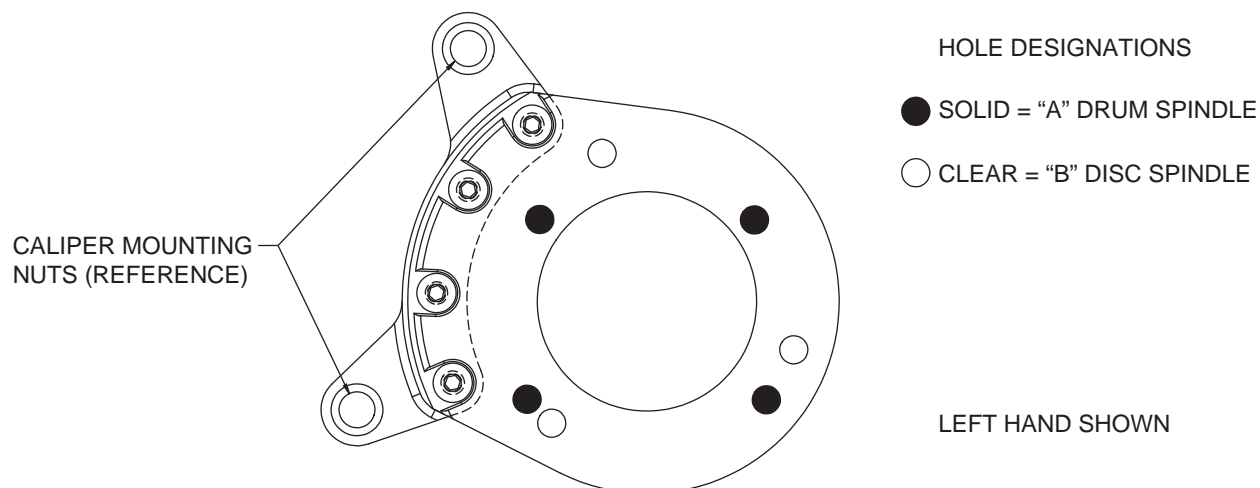
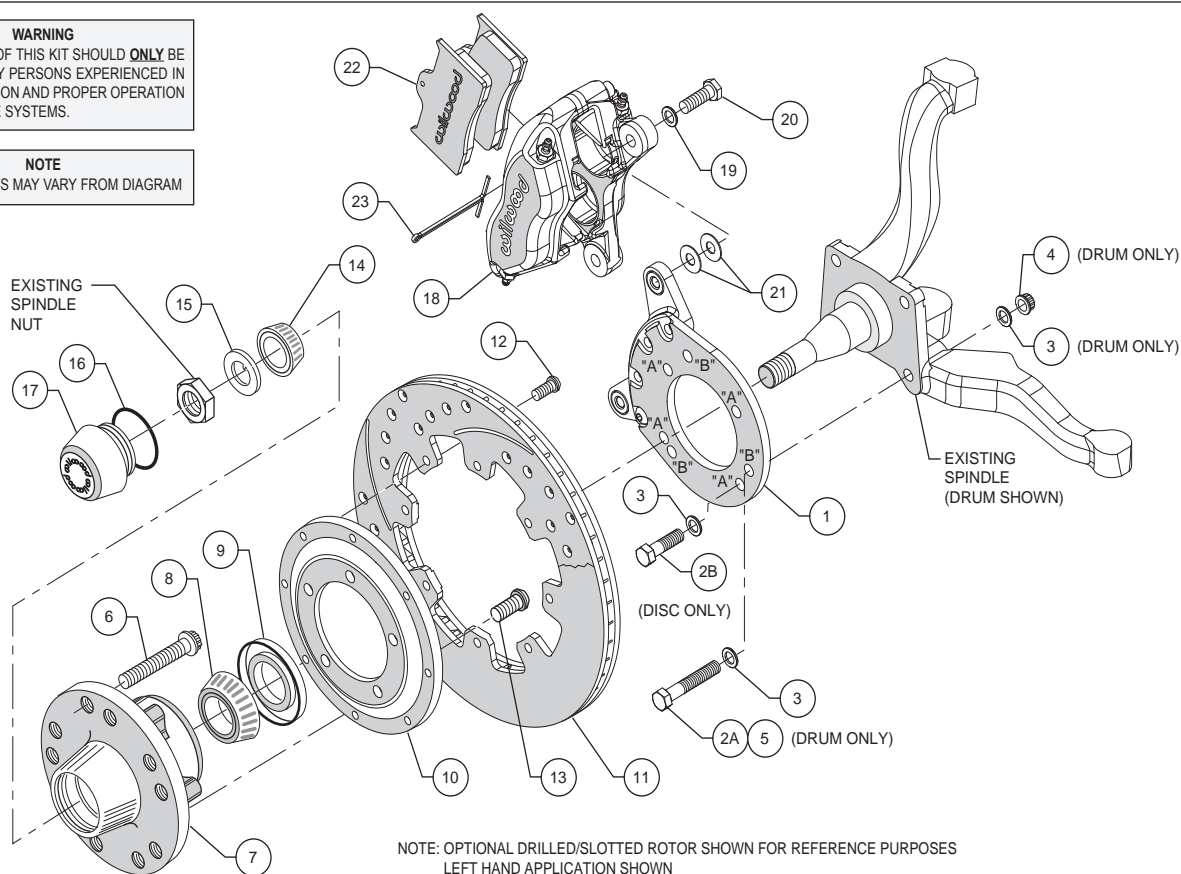
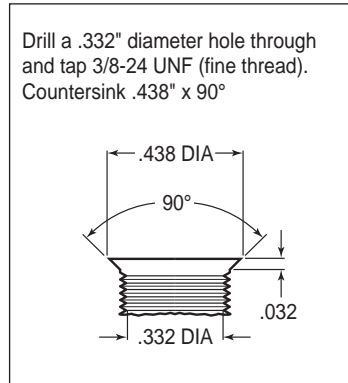
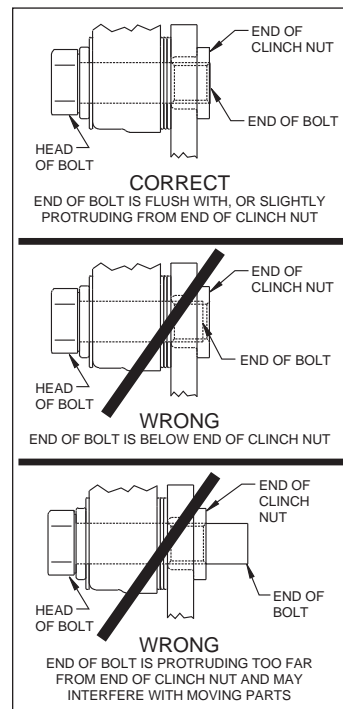

Figure 1. Wilwood Caliper Mounting Bracket
Figure 2. Typical Installation Configuration
Figure 3. Drill and Tap Detail
Figure 5. Clinch Nut Engagement Diagram
This kit has been designed for use with both the disc brake or the drum brake configuration of vehicle. The only difference is in how the Wilwood caliper mounting bracket is installed. The same bracket is used for both configurations; the disc brake version utilizes three mounting holes while the drum brake application uses four mounting holes (see Figure 1). For your convenience we have supplied bolt kits for both applications (see parts list and Figure 2 as necessary). Use the bolt kit that is applicable to your vehicle and disregard the other one.
NOTE: This modification should be performed by a qualified machinist and completed before assembly of the Wilwood disc brake kit begins. Using the caliper mounting bracket as a template (refer to Figure 1 as necessary), locate and verify the three original holes on the spindle that need to be modified. Drill a .332" diameter hole through all three holes, then tap 3/8-24 UNF (fine thread). Countersink the holes to .438" diameter x 90°, as shown in Figure 3.
Assembly Instructions (numbers in parenthesis refer to the parts list, and Figure 2 on the preceding pages): **CAUTION:** All mounting bolts must fully engage clinch nuts. Be sure to check that all bolts are either flush or protruding through flanged side of clinch nut after shimming, Figure 5.
•**NOTE:** This kit uses the same mounting bracket (1) for both the drum and disc brake spindles. The drum version, Photo 1 uses four mounting bolts (designated "A"), while the disc version, Photo 2, uses three (designated "B"). Refer to Figures 1 and 2 for the basic installation position of the bracket and the "A" and "B" reference designations (not physically marked on the brackets).
For Drum Spindle: Align bracket, using the four "A" holes, to the face of the spindle and attach using bolts (2A and 5), washers (3), and lock nuts (4), as shown in Figure 2. Ensure that the flanged heads of the clinch nuts in the bracket are facing outboard, Photo 1. Torque nuts to 30 ft-lb.
For Disc Spindle: Align bracket, using the three "B" holes, to the face of the spindle and attach using bolts (2B) and washers (3), as shown in Figure 2. Finger tighten. Ensure that the flanged heads of the clinch nuts in the bracket are facing outboard, Photo 2. Remove bolts one at a time, apply red *Loctite*® 271 to threads, and torque to 40 ft-lb.
- Pack the large inner bearing cone (8) with high temperature disc brake bearing grease (available from your local auto parts store) and install into the backside of the hub (7), Photo 4.
- Install the grease seal (9) by pressing into the backside of the hub (7), flush with the end of the hub, Photo 4.
- Orient the rotor (11) and the rotor adapter (10) as shown in Figure 2 and Photo 5. Attach the rotor to the adapter using bolts (12). Using an alternating sequence, apply red *Loctite*® 271 to the threads, and torque to 25 ft-lb.
- Mount the adapter/rotor assembly (10/11) to the hub (7) using bolts (13), as shown in Figure 2 and Photo 6. Using an alternating sequence, apply red *Loctite*® 271 to the threads, and torque to 55 ft-lb.
- Pack the small outer bearing cone (14) with high temperature disc brake bearing grease and install into hub (7). Slide the hub/rotor assembly onto the spindle. Secure using spindle washer (15) and OEM spindle nut, Photo 7. Adjust bearings per OEM specifications. Install saved OEM nut lock (if any) and a new cotter pin (not included).
- Screw dust cap (17) into hub (7), Photo 8. Friction created by the o-ring (16) on the dust cap keeps it from unscrewing.
- NOTE:** Please reference the caution statement at the beginning of the assembly instructions. Mount the caliper (18) onto the caliper mounting bracket (1) using bolts (20) and washers (19), as shown in Figure 2. Initially place two .035" thick shims (21) on each bolt between the caliper and the bracket, Photo 9. Temporarily tighten the mounting bolts and view the rotor (11) through the top opening of the caliper. The rotor should be centered in the caliper, Photo 10. If not, adjust by adding or subtracting shims between the bracket and the caliper. Always use the same amount of shims on each of the two mounting bolts. **NOTE:** The end of each bolt must be flush with or slightly protruding from the head of the clinch nut, as shown in Figure 5. If necessary place spare shims between washer (19) and caliper mounting ear to achieve the proper clinch nut engagement. Once the caliper alignment and clinch nut engagement are correct, remove the bolts one at a time, apply red *Loctite*® 271 to bolt threads, and torque to 40 ft-lb.
- Install the disc brake pads (22) into the caliper, with the friction material facing the rotor (11), and secure in place using cotter pin (23), Photo 11.